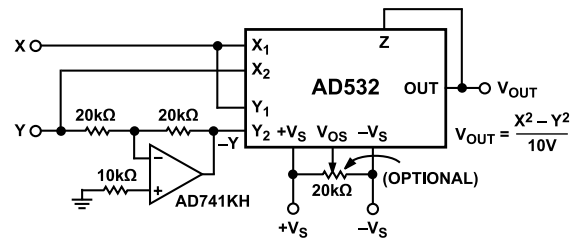

Figure 18. Differential of Squares Connection
The differential input capability of the AD532 allows for the algebraic solution of several interesting functions, such as the difference of squares, $X_2 - Y_2/10$ V. As shown in Figure 18, the AD532 is configured in the square mode, with a simple unity gain inverter connected between one of the signal inputs (Y) and one of the inverting input terminals ($-Y_{IN}$) of the multiplier. The inverter should use precision (0.1%) resistors or be otherwise trimmed for unity gain for best accuracy.